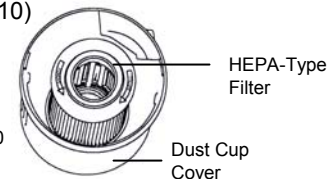

Fig. 10
2. To remove HEPA-Type filter, turn filter counter clockwise and then pull up. (Fig. 10)